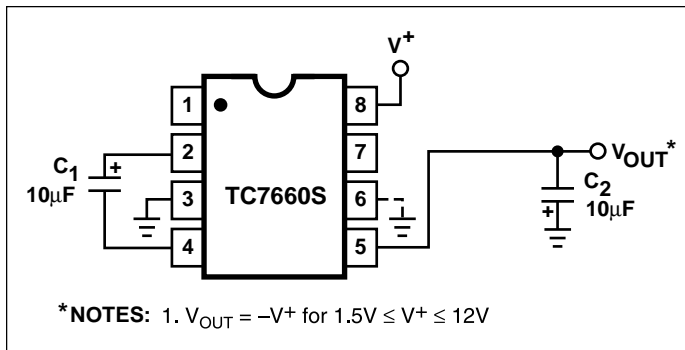
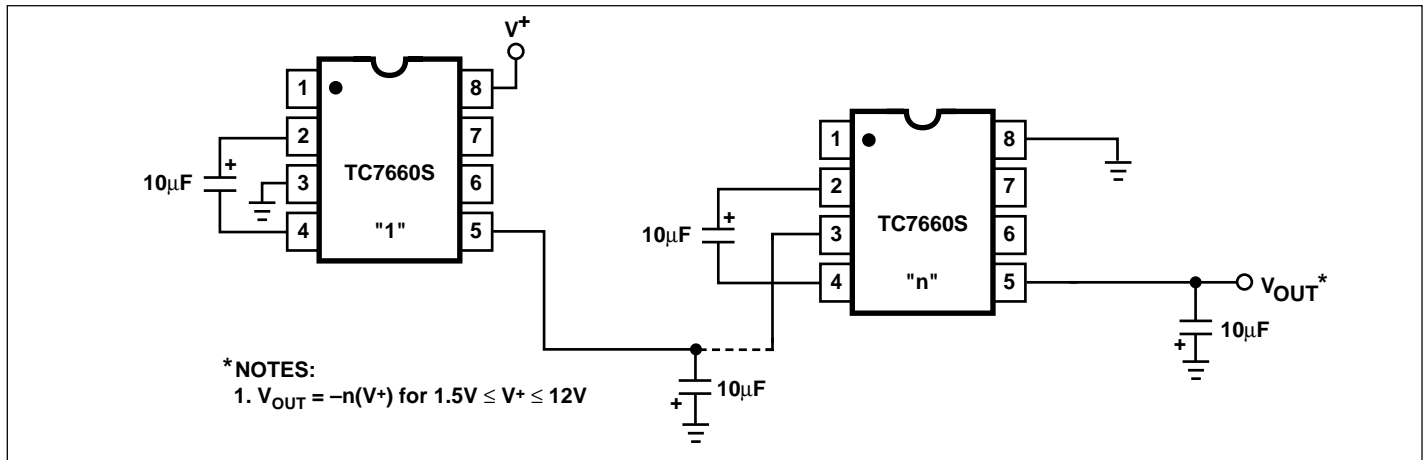
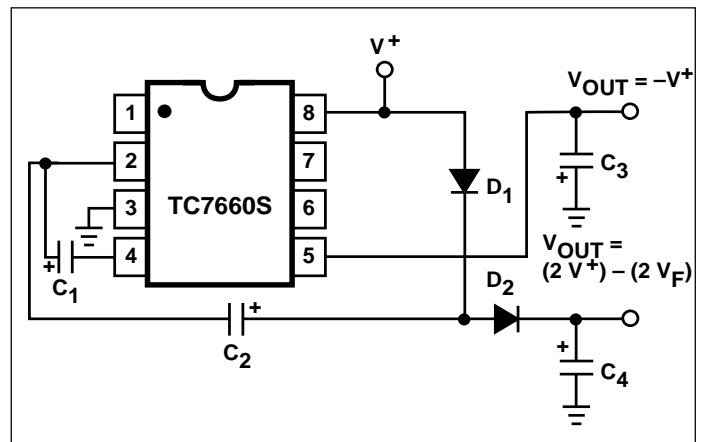
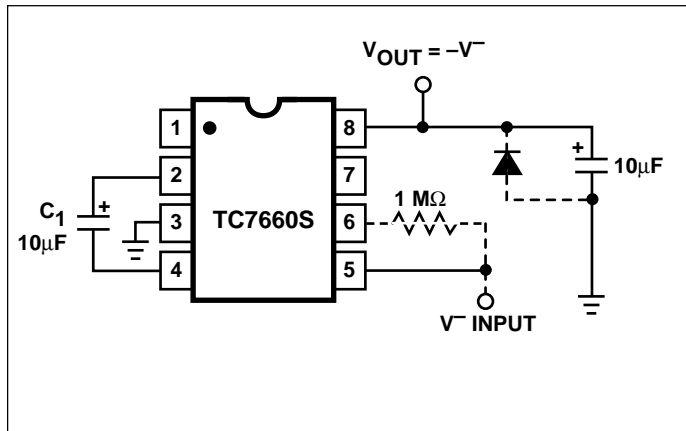

Figure 3. Simple Negative Converter
Figure 5. Increased Output Voltage by Cascading Devices
Figure 9. Combined Negative Converter and Positive Multiplier
Figure 10. Positive Voltage Multiplier
Figure 3 shows typical connections to provide a negative supply where a positive supply is available. A similar scheme may be employed for supply voltages anywhere in the operating range of +1.5V to +12V, keeping in mind that pin 6 (LV) is tied to the supply negative (GND) only for supply voltages below 3.5V.
The output characteristics of the circuit in Figure 3 are those of a nearly ideal voltage source in series with 70Ω . Thus, for a load current of $-10mA$ and a supply voltage of +5V, the output voltage would be $-4.3V$.
The TC7660S may be cascaded as shown (Figure 5) to produce larger negative multiplication of the initial supply voltage. However, due to the finite efficiency of each device, the practical limit is 10 devices for light loads. The output voltage is defined by:
Figure 9 combines the functions shown in Figures 3 and 8 to provide negative voltage conversion and positive voltage multiplication simultaneously. This approach would be, for example, suitable for generating +9V and -5V from an existing +5V supply. In this instance, capacitors C_1 and C_3 perform the pump and reservoir functions, respectively, for the generation of the negative voltage, while capacitors C_2 and C_4 are pump and reservoir, respectively, for the multiplied positive voltage. There is a penalty in this configuration which combines both functions, however, in that the source impedances of the generated supplies will be somewhat higher due to the finite impedance of the common charge pump driver at pin 2 of the device.
Since the switches that allow the charge pumping operation are bidirectional, the charge transfer can be performed backwards as easily as forwards. Figure 10 shows a TC7660S transforming -5V to +5V (or +5V to +10V, etc.). The only problem here is that the internal clock and switch-drive section will not operate until some positive voltage has been generated. An initial inefficient pump, as shown in Figure 9, could be used to start this circuit up, after which it
will bypass the other (D_1 and D_2 in Figure 9 would never turn on), or else the diode and resistor shown dotted in Figure 10 can be used to "force" the internal regulator on.
The same bidirectional characteristics used in Figure 10 can also be used to split a higher supply in half, as shown in Figure 11. The combined load will be evenly shared between the two sides. Once again, a high value resistor to the LV pin ensures start-up. Because the switches share the load in parallel, the output impedance is much lower than in the standard circuits, and higher currents can be drawn from the device. By using this circuit, and then the circuit of Figure 5, +15V can be converted (via +7.5V and -7.5V) to a nominal -15V, though with rather high series resistance (~250 Ω).